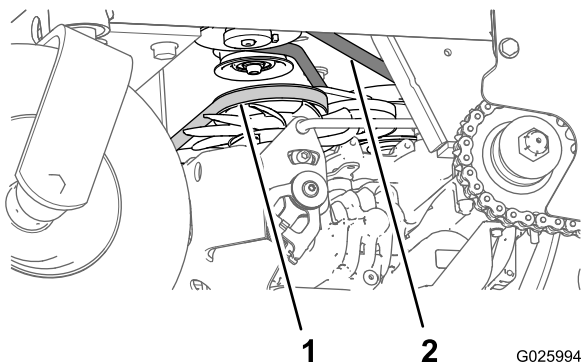

Figure 54
3. Check the auxiliary pump-drive belt condition and tension (Figure 54).
4. Check condition of the transmission-drive belt (Figure 54).